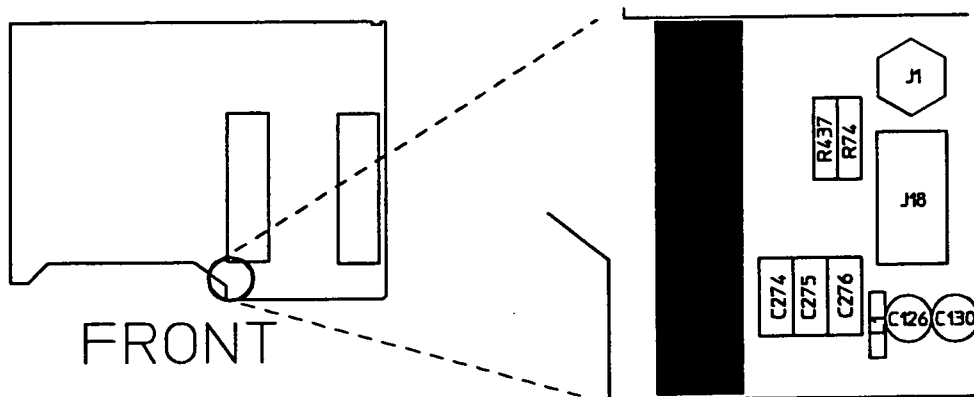

Figure 2-19. A1J11 Location
16. See figures 2-19 through 2-52 for the connector locations, adjustment locations, and waveforms.